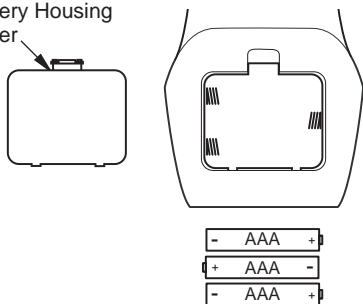

Figure 21 - Battery Install Hand-Held Remote Control
1. Remove battery housing cover from back of hand-held remote (see Figure 21).